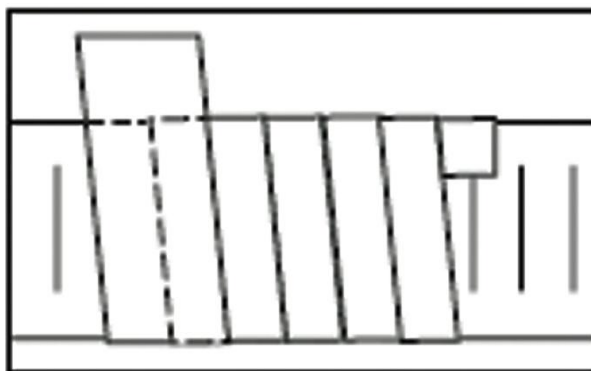
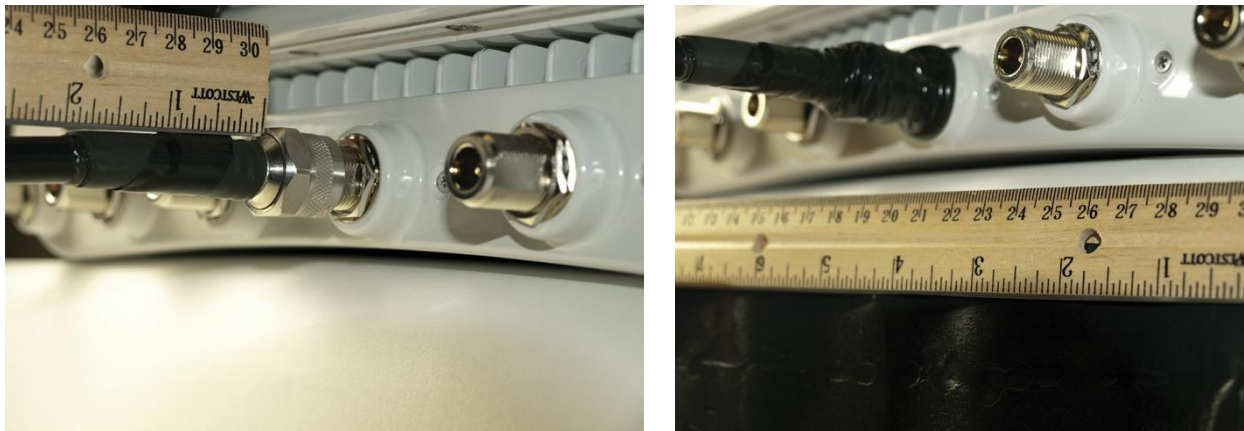

Figure 32: Proper Weatherproof Tape Overlap
Figure 34: First Plastic Tape Layer
- Add extra final layers of tape in warmer climates where there will be long exposure to damaging ultra violet (UV) rays. Two or three extra layers of tape will provide additional UV protection.
- When wrapping tape, overlap the tape to half-width as shown in Figure 32.
- Step 2: Wrap the connection with a layer of 3/4" (19-mm) plastic tape, starting at 1" (25 mm) from the connector. Overlap the tape to half-width as illustrated in Figure 32 and extend the wrapping over the entire connector. Avoid making creases or wrinkles. Smooth the tape edges. See Figure 34.